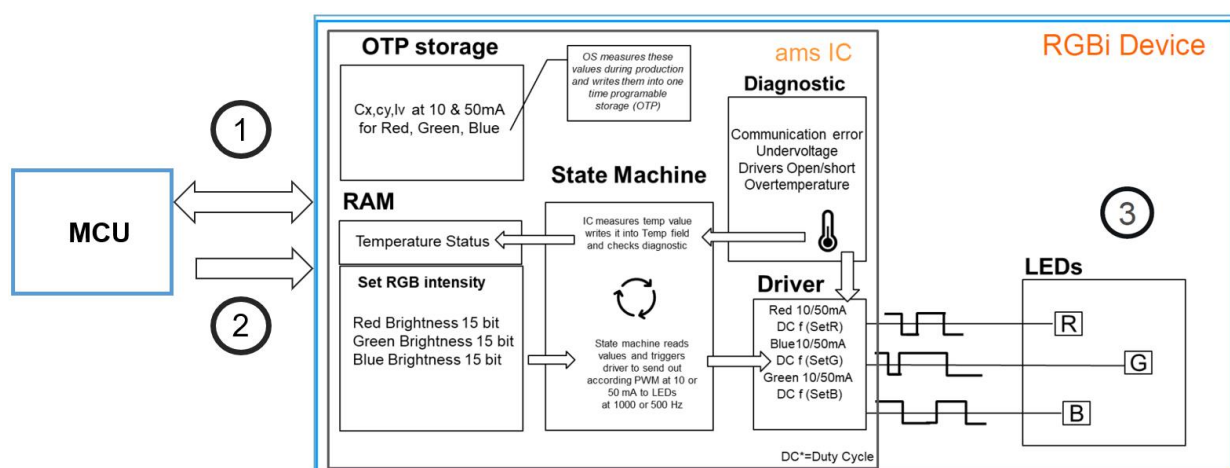

Figure 6. Flow of communication in OSP
To Figure 6. (1) Initialization. Auto-addressing of all RGBi devices in the chain. MCU reads the optical data of the three embedded R/G/B chips (cx, cy, lv at 10mA and at 50mA) from each device.